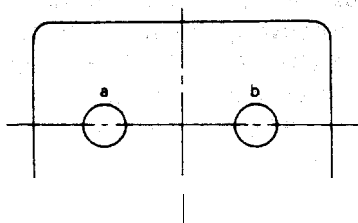

Figure 3-3.
- Observe the green spots ("a" and "b") with a microscope as shown in Fig. 3-3., and adjust the purity magnet so that they are at the specified landing position.